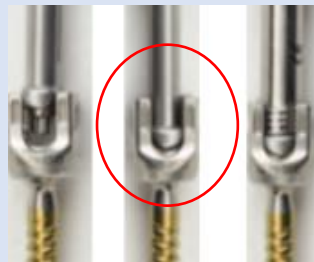

Figure 5
- Insert the distal tip of the Polyaxial Screw Driver into the screw. The cross bar on the Polyaxial Screw Driver should be seated against the rod slot of the screw tulip (Figure 5).